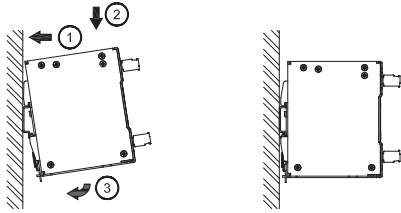

Figure 2
3. Mounting (Fig. 2)
The power supply unit can be mounted on 35 mm DIN rail in accordance with EN60715. The device should be installed with input terminal block at the bottom. Each device is delivered ready to install. Snap onto the DIN rail as shown in Fig. 2: